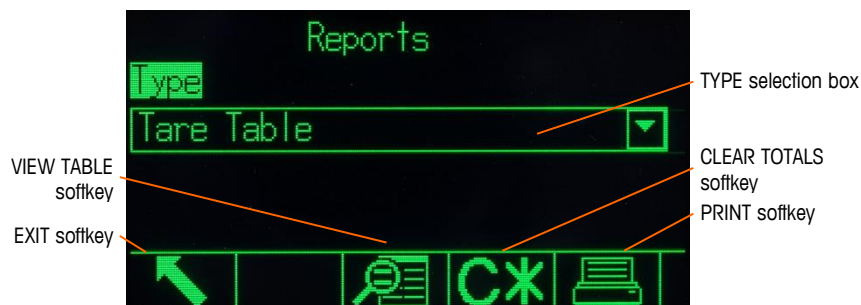

Figure 2-28: Reports Screen
1. Press the REPORTS soffkey . The Reports screen displays (Figure 2-28).